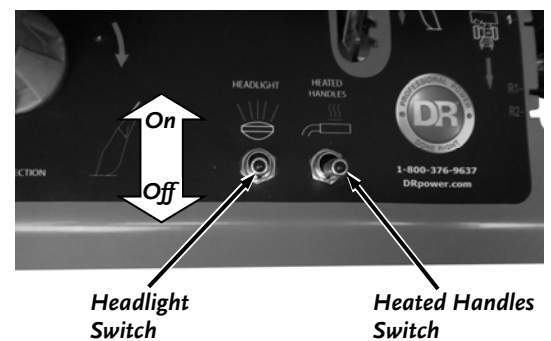

Figure 36
1. Move the Switch to the forward (ON) position to turn on the heat to the Grips (**Figure 36**).
1. Move the Switch to the forward (ON) position to turn the Headlight on (**Figure 36**).